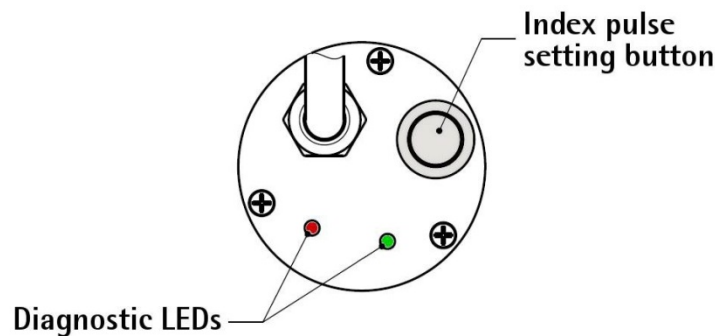

Figure 1 - Diagnostic LEDs and Index pulse setting button
4.10 Diagnostic LEDs (Figure 1) (ENC58 models only)
4.11 Index pulse setting external button (Figure 1) (ENC58 models only)